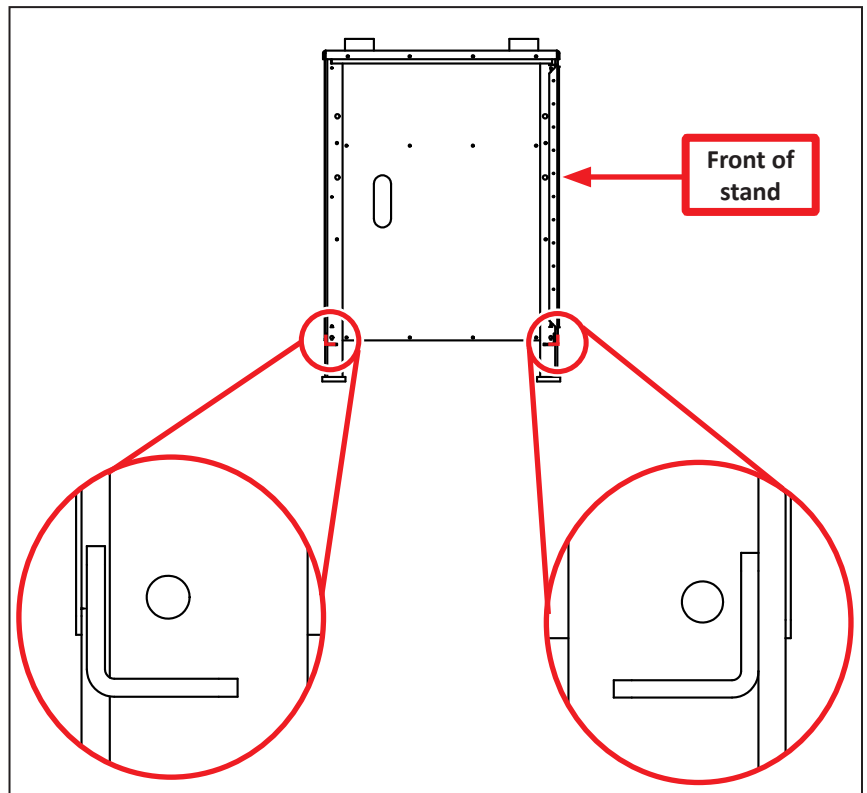

Figure 9
- Place one Lower Support at front of stand as shown in **Figure 9**; insert two 1/4-20 x 3/8" Phillips Screws through stand front, through Leg, and screw into Lower Support; repeat for back of stand.
NOTE: Some previously installed items not shown in **Figure 9**.
16. Place cardboard (or similar) on floor to protect stand; lay stand on its back (see **Figure 9**).